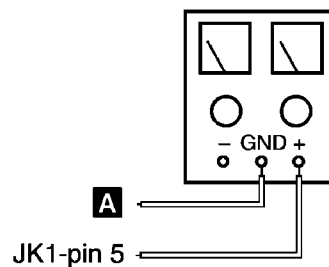

Fig. 6-3.
2. Connect a DC power supply to JK1-pin 5 and **A** . Then adjust the output to 10 V. Refer to Fig. 6-3.